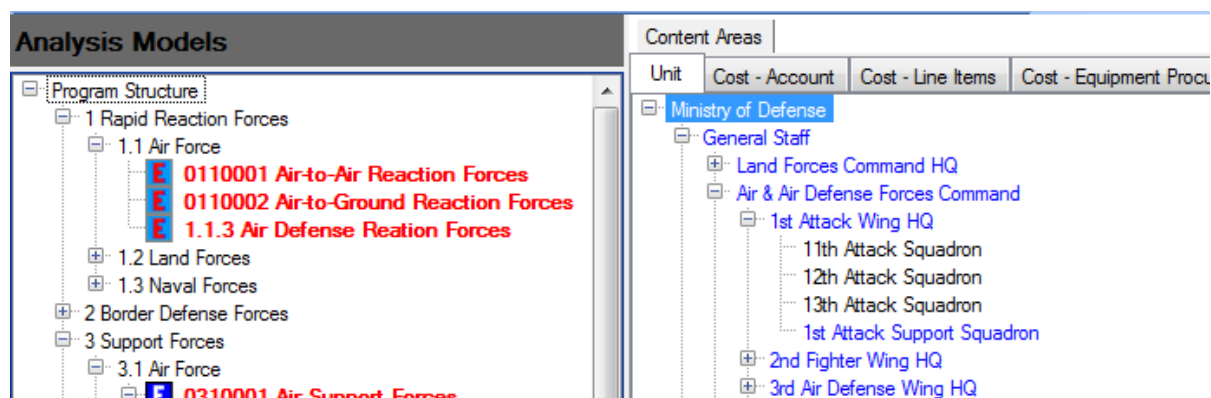
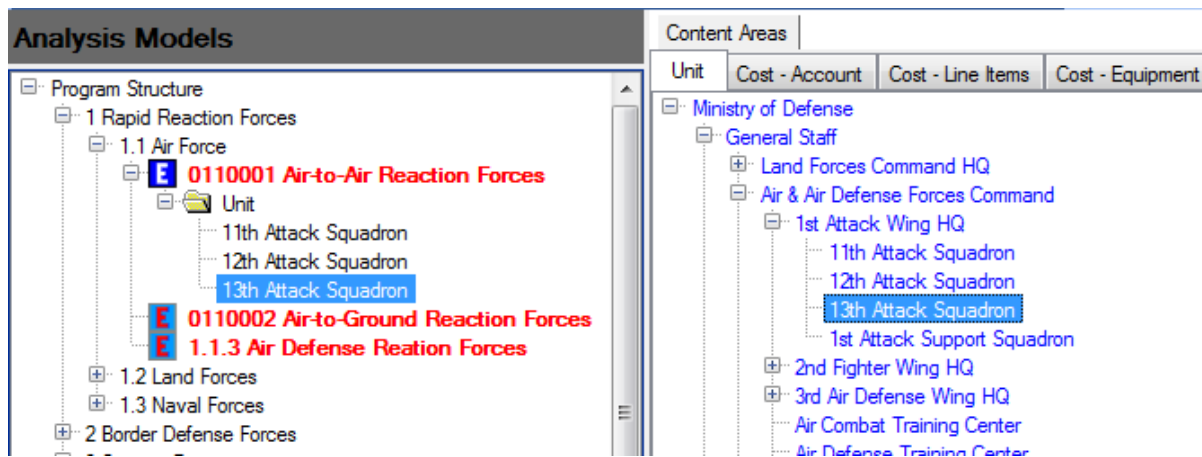

Figure 6-44. Unassigned Units Shown in Black
Figure 6-46. New Units in Category Structure and Selected Units Shown in Blue
When selecting Units, it is possible to select more than one Unit at a time for assignment to a category. To do this, select Units while holding down the **Ctrl** key. Those Unit names will turn to red text. Then simply drag one of the names to the appropriate category and all selected Units will be assigned. The sequence of steps, shown in Figure 6-44 through Figure 6-46, is as follows.
- Initially, unassigned Units are shown in black text (Figure 6-44).
- The last Unit selected is dragged to the category “0110001 Air-to-Air Reaction Forces”. A Unit folder is created in the category structure and the three Unit names are shown within that folder. At the same time, the three names on the Unit Content Area tab change from red to blue text, showing that they have been assigned to a category (Figure 6-46).